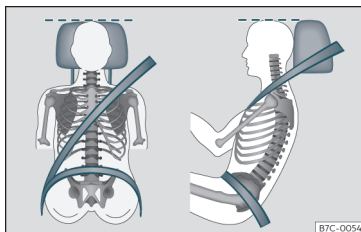

Fig. 72 Correctly adjusted head restraint as viewed from the front and the side.
- Adjust the head restraint so that its upper edge is, as far as possible, at the same level as the top of your head, or at the very least, at eye level »» **Fig. 72**.